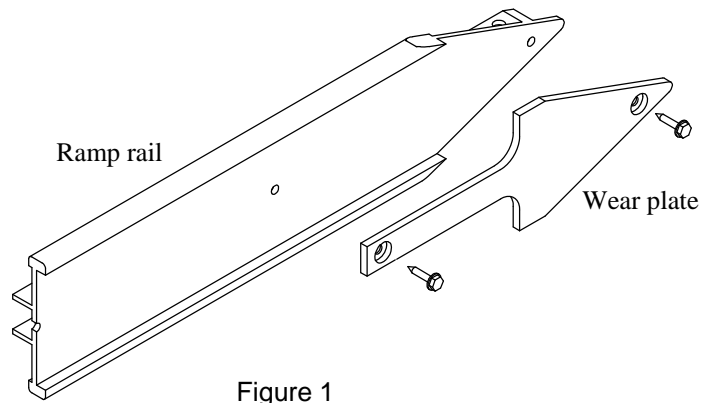

Figure 1
- a. Remove the two 1/4" tie-rod screws with a 3/8" socket or wrench on both sides of the ramp and discard. (See figure 1).